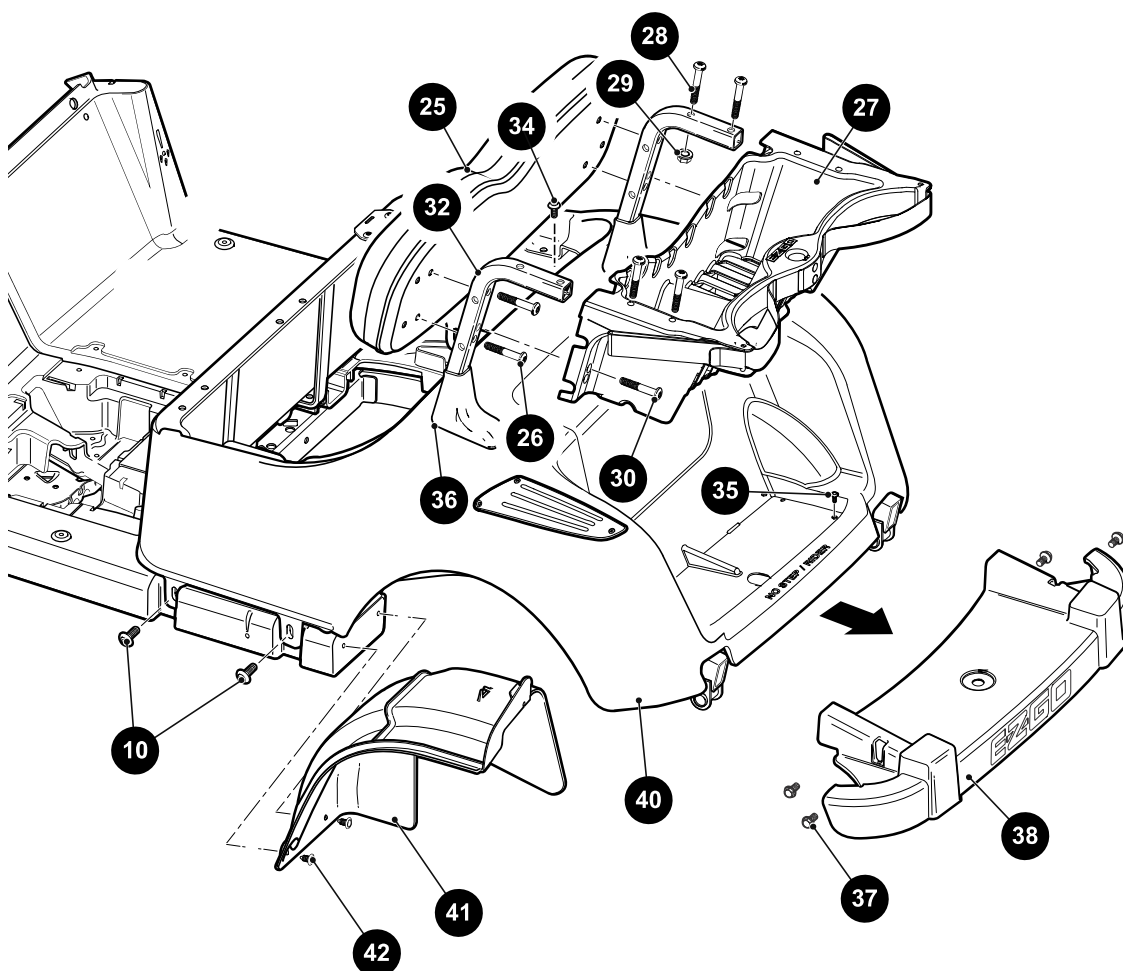

Figure 10 Golf Car Rear Body, Sweater Basket, Rear Bumper and Fender Liner
1. Remove four torx screws (28) and flanged nuts (29) on the top edge of the sweater basket assembly (27) (Figure 10).
2. Remove two torx screws (30) securing the back of the sweater basket (27) to the seat back supports.
3. Slide the sweater basket assembly (27) off the seat back supports (32).
Remove four torx screws (26) that secure the seat back assembly (25) to seat back supports (32) (Figure 10).
The fender liner can be removed without removing the rear body of the vehicle (Figure 10).
Remove the lower and upper rocker panels and the sweater basket. Fold the back edge of the floormat toward the front of the vehicle. If the vehicle is equipped as a 2 + 2 with a rear facing seat or with a canopy and windshield, these must also be removed (Figure 10).
1. Raise and remove the seat bottom assembly from the vehicle. Remove four torx screws (26) securing the seat back (25) to the seat back supports (32) (Figure 10).
4. Remove the two strut covers (36) by sliding the covers up and off of the struts.
5. Disconnect the wires from the charging receptacle to the battery and unplug the wire to the main wiring harness. Remove two torx screws (33) securing each hinge plate (32) along the front edge of the rear body then remove both hinge plates.
6. Remove two inner torx screws (34) from the back edge of seat opening in the rear body.
7. Remove four torx screws (10) from the lower edge of the rear body, two on the driver side and two on the passenger side.
8. Remove two torx screws (35) from the bagwell floor.
the rear body of the vehicle (Figure 10).